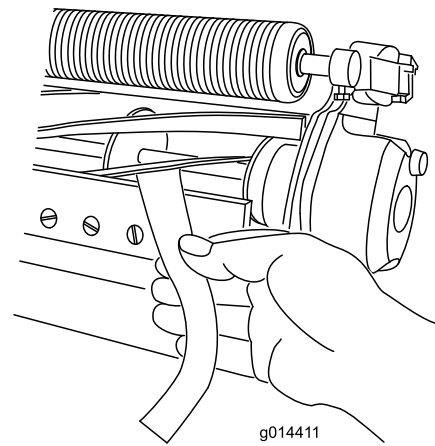

Figure 10
- B. Insert a long strip of cutting performance paper (Toro Part No. 125-5610) between the reel and bedknife, perpendicular to the bedknife (Figure 10), then **slowly** rotate the reel forward; it should cut the paper; if not, repeat steps A and B until it does.
11. Insert a long strip of cutting performance paper (Toro Part No. 125-5610) between the reel and bedknife, perpendicular to the bedknife (Figure 10), then **slowly** rotate the reel forward; it should cut the paper; if not, turn each bedbar adjusting screw clockwise 1 clicks and repeat this step until it cuts the paper.